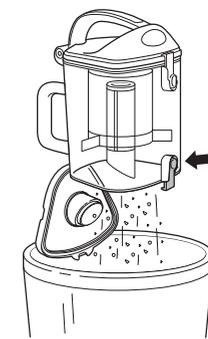

Fig. 19
- Hold the dust cup over a trash receptacle and press the bottom door release button. (Fig. 19) Tap gently to empty contents. Press the door shut again until it clicks.